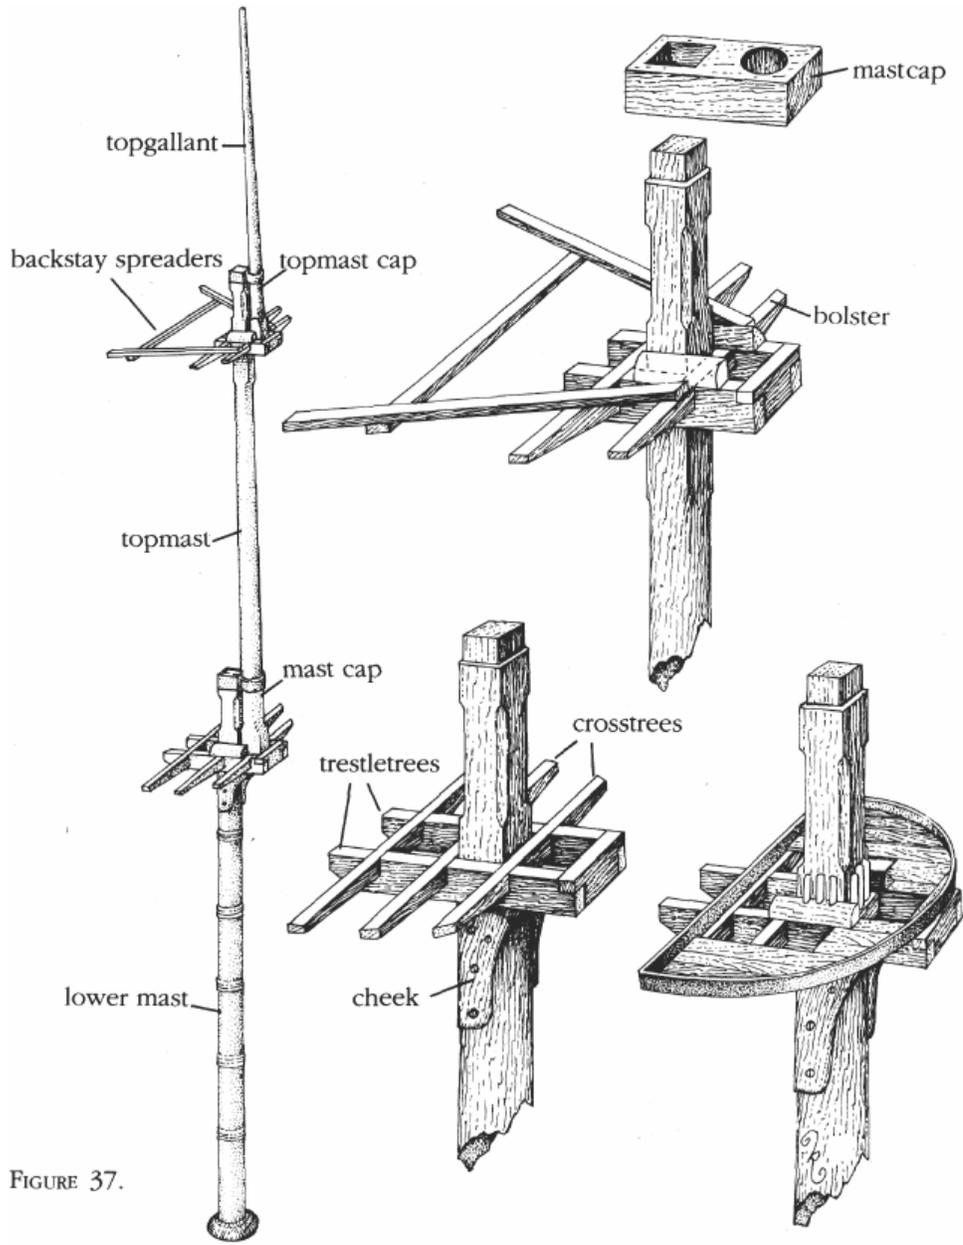
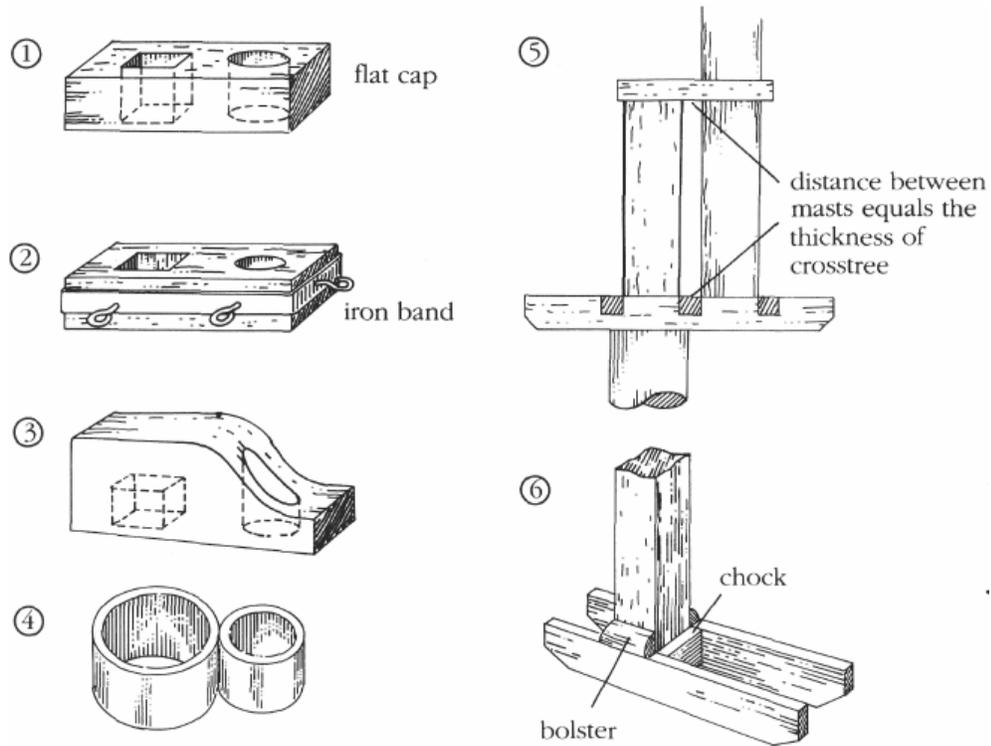

FIGURE 37.
FIGURE 40. Mastcap components.
FIGURE 37. *Masts were a study in strength and utility. The lowest — and thickest — mast often was constructed from longitudinal sections banded together. At its top sat an assembly of crossrees and trestletrees supported by cheeks; this assembly was often planked over to provide a working platform. Moving up the mast you 'd find two more sections: the topmast (not the highest section as one would think), and then the topgal-lant. A mastcap held these two higher sections together and helped support the top crossrees assembly.*
Crosstrees and trestletrees are notched together so their top edges are flush. Figure 37 will give you an idea how they work. The trestletrees are set and glued on top of the cheeks and against the sides of the mast. The spacing of the crosstrees, which run perpendicular to the trestletrees, depends on the model you're building.
Another part of the top's framing consists of *bolsters*, wood blocks rounded on one side to provide a smooth surface on which the shrouds can rest (see Figure 37). You can make bolsters by filing one corner of a square piece of stock, or you can buy quarter-round molding in a hobby shop.
**MASTCAPS.** Just above the masttop you'll find the *mastcap* — a collar that held two mast sections together when one was erected at the head of the other, as in Figure 37. While mastcaps will vary in shape, material (wood, iron, steel), and size depending on the era, they all have two holes through which the two mast sections must pass (Figure 40). Most kits will supply precut or precast mastcaps; you can also buy mastcaps from suppliers. Here are a few types you may find in your kit: one wooden piece (1); two pieces held together by an iron band (2); wood in the shape of a boot (3); or two iron hoops welded together (4).